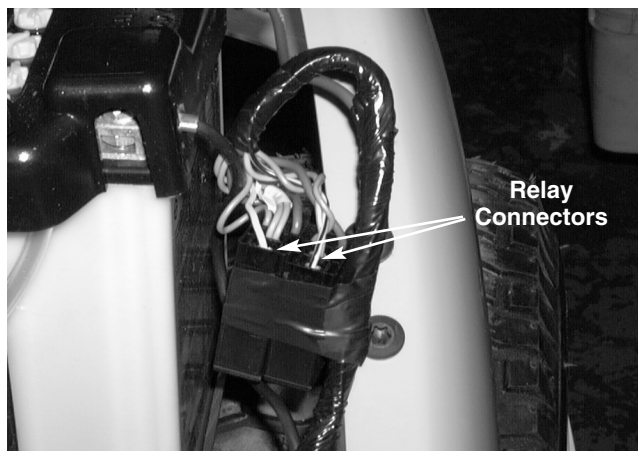

FIGURE 8.
- 23). Locate the relay connector with the yellow/black wire running into it. See figure 8.